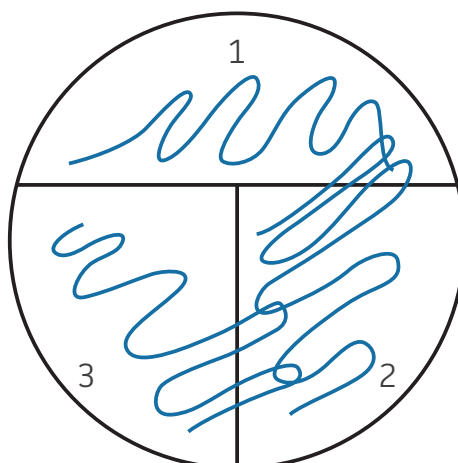

Figure 5: How to inoculate a streak plate
- 8 Streak out the culture onto section 1 of your plate (See: FIGURE 5). Return the petri dish to its lid.
- 10 Once cool, pick up the agar-half of the petri dish and pass the inoculation loop 1–3 times through section 1, dragging the culture through section 2 multiple times. Be sure your streaks do not overlap (See: FIGURE 5). Return the petri dish to its lid.
- 12 Once cool, pick up the agar-half of the petri dish and pass the inoculation loop 1-3 times through section 2, dragging the culture through section 3 multiple times. Be sure your streaks do not overlap (See: FIGURE 5). Return the petri dish to its lid.